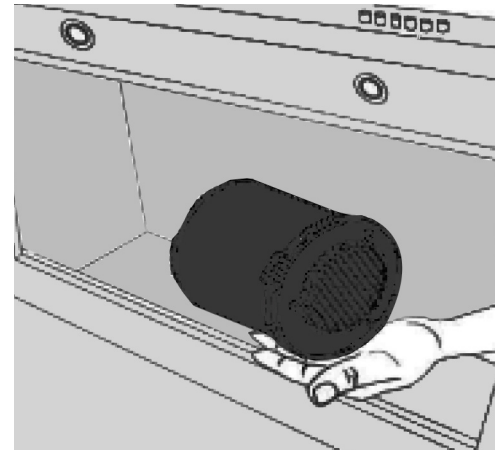

Figure 6
- Position the unit on its back on a flat non-abrasive surface – perpendicular to your working surface (see Figure 6).
- Place hand to hold motor in position and ensure weight of motor is well supported (see Figure 6). This will ensure screws don't get bent or broken.